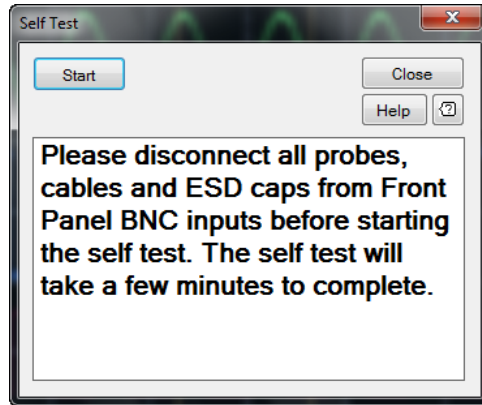

Figure 3-5 Self Test dialog
- 2 The Self Test dialog is displayed as shown in Figure 3-5.